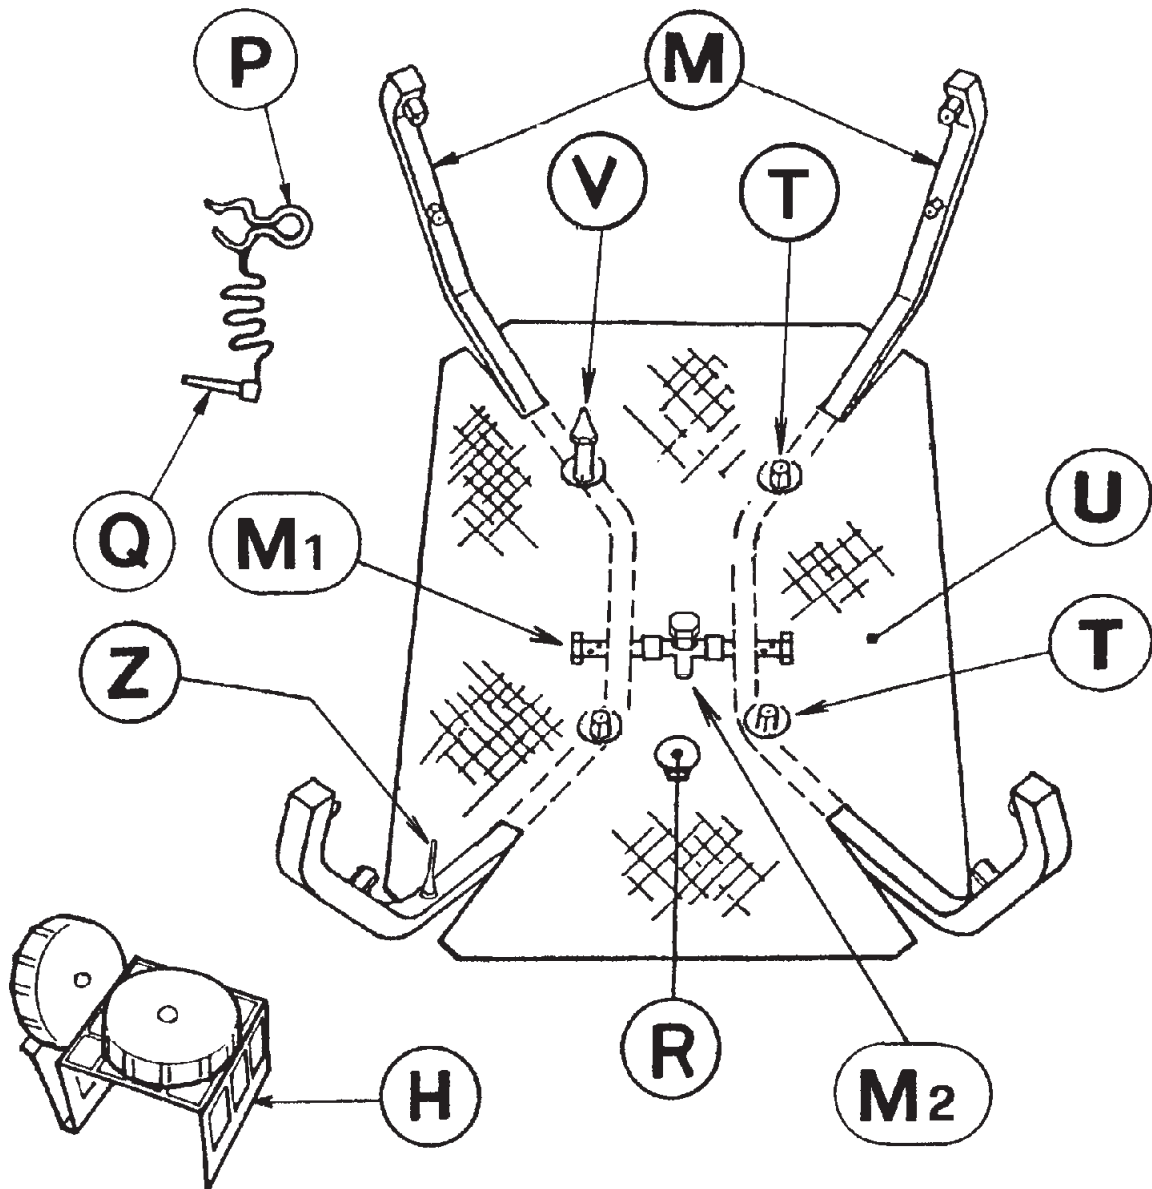

Figure 3
- If pieces are not washed well, **it is recommended** that you check and, if necessary, clean the nozzles inside the washing machine (see fig.3).
5. INTERNAL VIEW OF THE WASHER (See fig. 3)
5.5 WASHING ACCESSORIES (See fig. 3 - 3A - 3B).